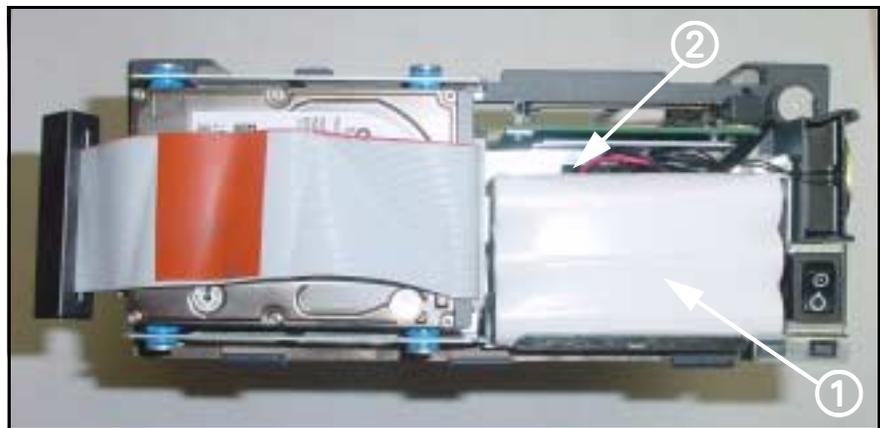

Figure 5-5 Front Panel battery
11. Lift up and then pull battery (① in Figure 5-5) out of front panel housing to gain access to battery connector (② in Figure 5-5).